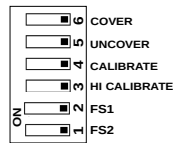

Figure 8: DIP Switch
- Unscrew the cover and ensure that all DIP switches are in the OPEN position as shown in Figure 8. Make that the STATUS LED is not blinking for error.
- Unscrew the cover and make sure that all DIP switches are in the OPEN position as shown in Figure 8. Ensure that the STATUS LED is not blinking for error.